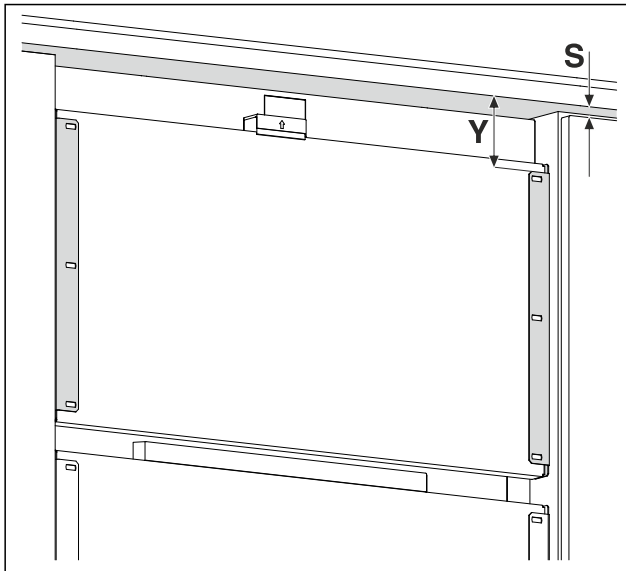

Fig. 17 Example illustration
- ▶ Measure the distance Fig. 17 (Y) from the bottom edge of the cabinet front to the bracket angle.
- ▶ Measure the gap dimension Fig. 17 (S) from the bottom edge of the cabinet front to the top edge of the cabinet door.